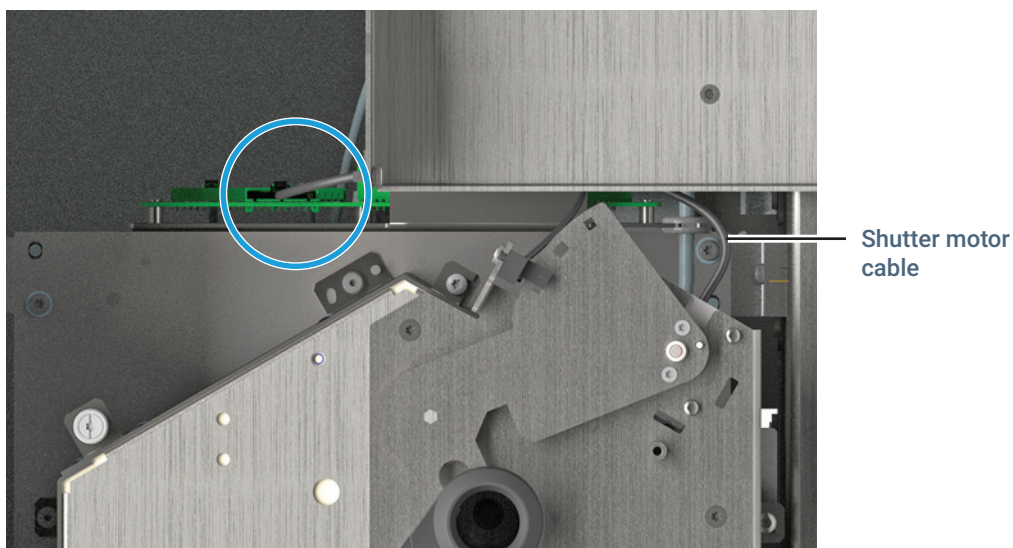

Figure 11. Disconnect the shutter motor cable from the connector board
- 7 Disconnect the shutter motor cable from the connector board. (Figure 11)